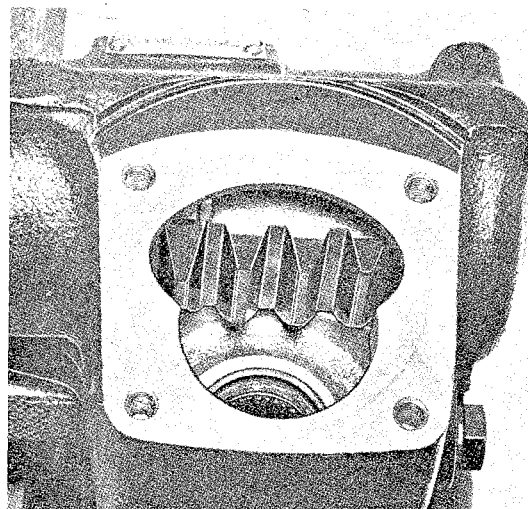

Fig. 6-91. Middle position
12. Place the piston teeth in the middle position, that is, the cover between the second and third tooth about opposite the steering shaft hole (Fig. 6-91). Fine-adjust by adjusting the worm line-up mark to coincide with the line-up mark on the housing (Fig. 6-58).